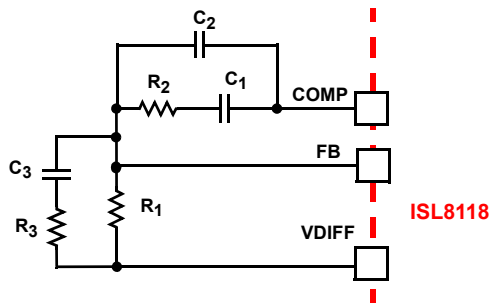
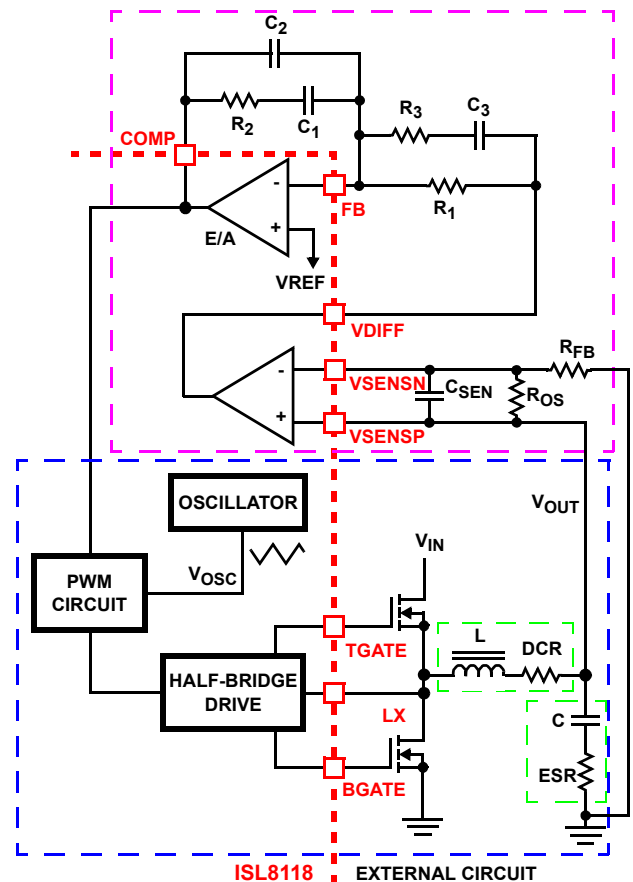

FIGURE 9. COMPENSATION CONFIGURATION FOR ISL8118 WHEN USING DIFFERENTIAL REMOTE SENSE
FIGURE 10. VOLTAGE-MODE BUCK CONVERTER COMPENSATION DESIGN
The ISL8118 single-phase converter is a voltage-mode controller. This section highlights the design considerations for a voltage-mode controller requiring external compensation. To address a broad range of applications, a type-3 feedback network is recommended (see Figure 9).
Figure 10 highlights the voltage-mode control loop for a synchronous-rectified buck converter, when using an internal differential remote sense amplifier. The output voltage ( $V_{OUT}$ ) is regulated to the reference voltage,  $V_{REF}$ , level. The error amplifier output (COMP pin voltage) is compared with the oscillator (OSC) triangle wave to provide a pulse-width modulated wave with an amplitude of  $V_{IN}$  at the LX node. The PWM wave is smoothed by the output filter (L and C). The output filter capacitor bank's equivalent series resistance is represented by the series resistor ESR.
The compensation network consists of the error amplifier (internal to the ISL8118) and the external  $R_1$ - $R_3$ ,  $C_1$ - $C_3$  components. The goal of the compensation network is to provide a closed loop transfer function with high 0dB crossing frequency ( $F_0$ ; typically 0.1 to 0.3 of  $F_{SW}$ ) and adequate phase margin (better than  $45^\circ$ ). Phase margin is the difference between the closed loop phase at  $F_{0dB}$  and  $180^\circ$ . The equations that follow relate the compensation network's poles, zeros and gain to the components ( $R_1$ ,  $R_2$ ,  $R_3$ ,  $C_1$ ,  $C_2$ , and  $C_3$ ) in Figures 9 and 10. Use the following guidelines for locating the poles and zeros of the compensation network:
1. Select a value for  $R_1$  (1kΩ to 10kΩ, typically). Calculate value for  $R_2$  for desired converter bandwidth ( $F_0$ ). If setting the output voltage to be equal to the reference set voltage as shown in Figure 9, the design procedure can be followed as presented. However, when setting the output voltage via a resistor divider placed at the input of the differential amplifier (as shown in Figure 10), in order to compensate for the attenuation introduced by the resistor divider, the below obtained  $R_2$  value needs be multiplied by a factor of  $(R_{OS} + R_{FB})/R_{OS}$ . The remainder of the calculations remain unchanged, as long as the compensated  $R_2$  value is used.
A small capacitor,  $C_{SEN}$  in Figure 10, can be added to filter out noise, typically  $C_{SEN}$  is chosen so the corresponding time constant does not reduce the overall phase margin of the design, typically this is 2x to 10x switching frequency of the regulator. As the ISL8118 supports 100% duty cycle,  $d_{MAX}$  equals 1. The ISL8118 also uses feed-forward compensation, as such  $V_{OSC}$  is equal to 0.16 multiplied by the voltage at the VFF pin.